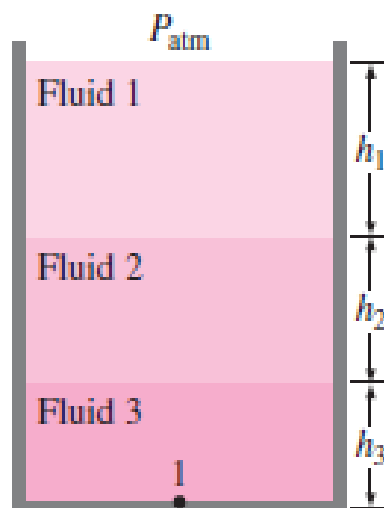

Figure 3.12: In stacked up fluid layer, the pressure change across a fluid layer of density  $\rho$  and height  $h$  is  $\rho gh$ .
and decreases upward (i.e.,  $P_{\text{bottom}} > P_{\text{top}}$ ), and (3) two points at the same elevation in a continuous fluid at rest are at the same pressure. The last principle, which is a result of *Pascal's law*, allows us to “jump” from one fluid column to the next in manometers without worrying about pressure change as long as we don't jump over a different fluid, and the fluid is at rest. Then the pressure at any point can be determined by starting with a point of known pressure and adding or subtracting  $\rho gh$  terms as we advance toward the point of interest. For example, the pressure at the bottom of the tank in Fig. 3.12 can be determined by starting at the free surface where the pressure is  $P_{\text{atm}}$ , moving downward until we reach point 1 at the bottom, and setting the result equal to  $P_1$ . It gives